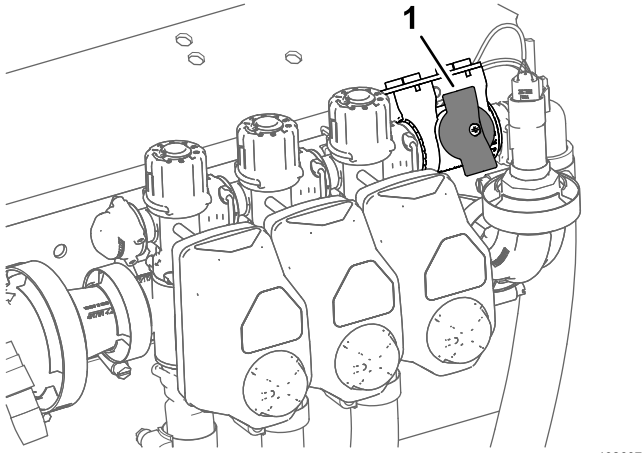

Figure 34
4. For machines operated in the application-rate mode, ensure that the knob for the section-bypass shutoff valve is in the closed position (Figure 34).
5. For machines operated in the application-rate mode, ensure that the section-bypass shutoff valve is closed (Figure 34).